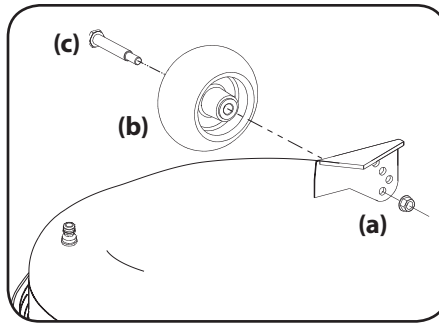

Figure 2-13
- Remove the lock nut (a) securing one of the front gauge wheel (b) shoulder screws (c) to the deck. Remove the gauge wheel (b) and shoulder screw (c). See Figure 2-13.